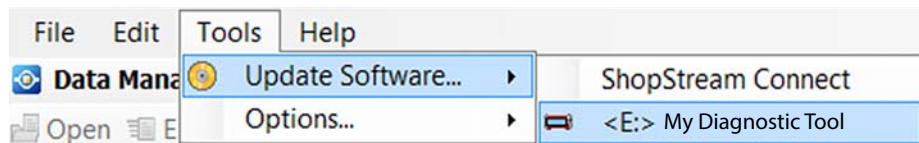

Figure 9-4
1. Select **Tools > Update Software >** (diagnostic tool type - e.g. ETHOS Edge, MODIS Edge, SOLUS Edge, etc.) from the Menu bar (Figure 9-4).